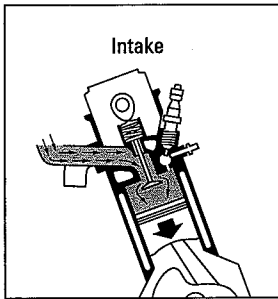

Figure 7-7:
- ✓ **Stroke 1 — Intake stroke (see Figure 7-7):** The piston descends, the intake valve opens, and air is drawn into the cylinder.